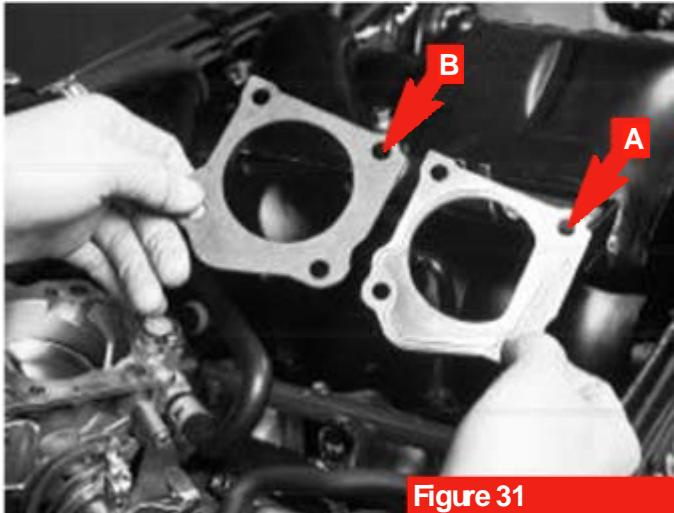

Figure 31
*IMPORTANT: Do not reuse the OE metal gasket (A, figure 31) on the throttle body. It will reduce boost output by 1 ½ lbs. Use the gasket supplied with the kit (B, figure 31), and make sure that it is positioned properly. Its shape must coincide with that of the throttle body. If not, you will create a vacuum leak.*